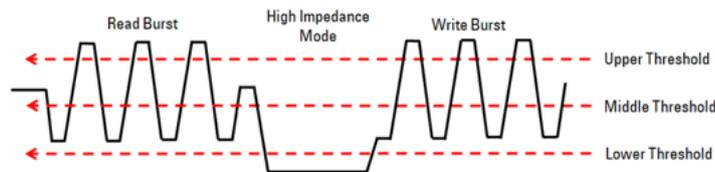

Figure 80 Signal with a non-ideal high impedance voltage amplitude
- 1 Non-Ideal High Impedance Voltage – In the signal shown in Figure 80, the amplitude of the high impedance voltage is below the Read and Write amplitude. In such a situation, when the Compliance Test Application automatically determines the appropriate threshold level using the TopBase Ratio mode, the high impedance voltage complicates the algorithm within the application. The upper, middle and lower threshold levels, which are calculated under the TopBase Ratio mode, do not meet the requirements for valid Read and Write bursts. Hence, the application is unable to determine any valid Read or Write bursts. Eventually, the application is unable to perform any measurements or the measurements are erroneous.